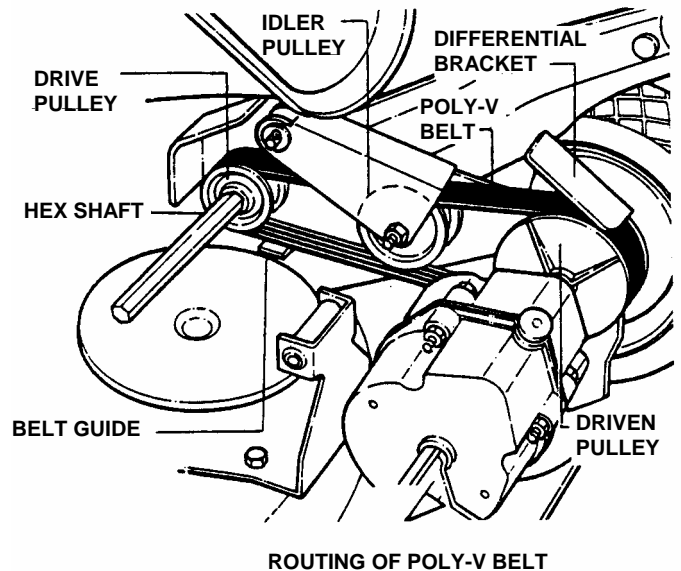

FIGURE 4.18
2. Note the routing of the old belt around the three pulleys before removing it. See Figure 4.18.
5. Twist belt sideways and pull it upward between the differential bracket and driven pulley and then down into the pulley groove. Make sure the Poly-V Belt is above belt guide. See Figure 4.18.